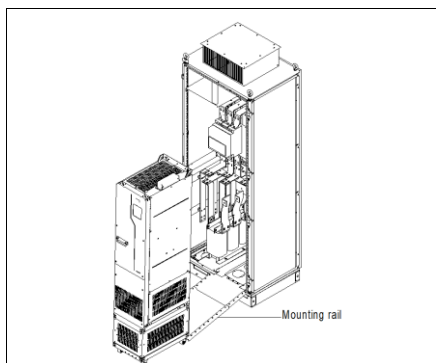
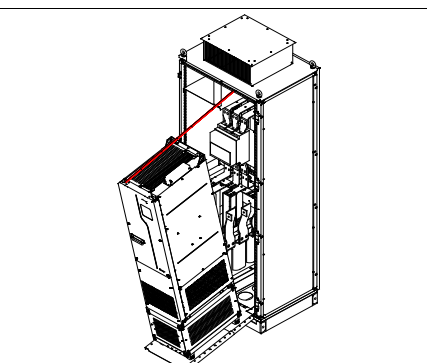
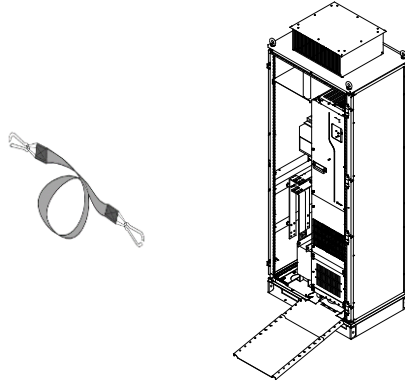

Figure 4-15 Aligning the VFD casters with the mounting rail
Figure 4-16 Pushing the VFD into the cabinet slowly
Figure 4-17 VFD already in the cabinet
4	Arrange two people to align the VFD casters with the mounting rail and push the VFD to the cabinet. (See Figure 4-15 and Figure 4-16. Use the auxiliary rope for mounting to prevent the VFD from side tipping during the push-in or push-out, as shown in Figure 4-17.)
- B. Fix the mounting bracket to the nine-fold profile cabinet frame base with six M5 self-tapping screws, as shown in the following figure. For details about mounting bracket dimensions, see Figure 4-15 and Table C-8.
Note: Since the VFD barycenter is too high, use the auxiliary rope for mounting to prevent the VFD from rollover during the push-in or push-out. See Figure 4-17.